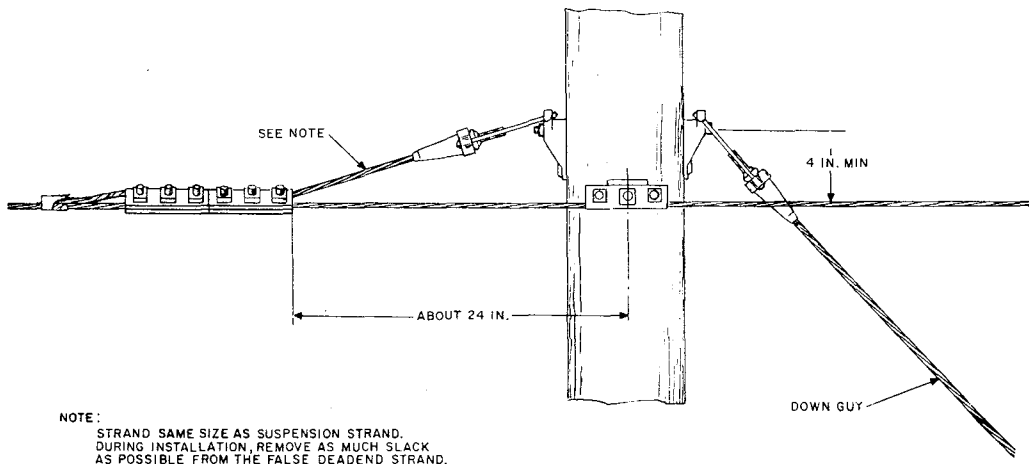

Fig. 19—False Deadend (Strandwise and B Cable Suspension Clamp)
5.01 The method of installing a false deadend using a strandwise and guy clamps is illustrated in Fig. 19. This method may be used where the strand is continuous. See Table C for the number of B guy clamps required.